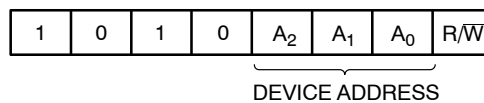

Figure 3. Slave Address Bits
The Master addresses a Slave by creating a START condition and then broadcasting an 8-bit Slave address. For the N24C32, the first four bits of the Slave address are set to 1010 (Ah); the next three bits, A₂, A₁ and A₀, must match the logic state of the similarly named input pins. The R/W bit tells the Slave whether the Master intends to read (1) or write (0) data (Figure 3).